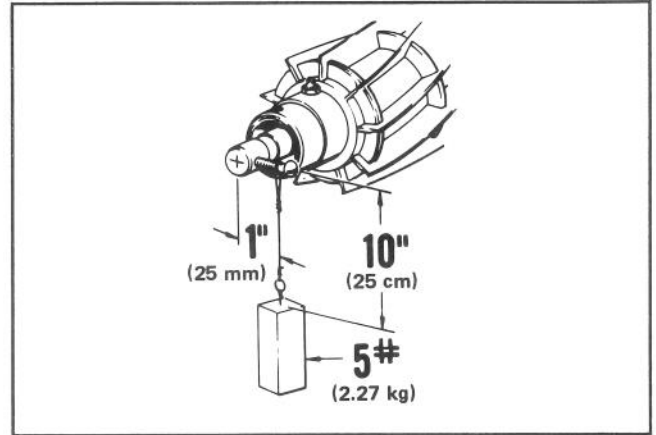

Figure 43
- A. Install a 1/4-20 screw into hole in end of reel shaft (Fig. 43).
- B. Support the reel and hang a 5 lb. (2.27 Kg) weight 1 in. (25 mm) away from center of reel shaft and 10 in. (25 cm) down (Fig. 43).